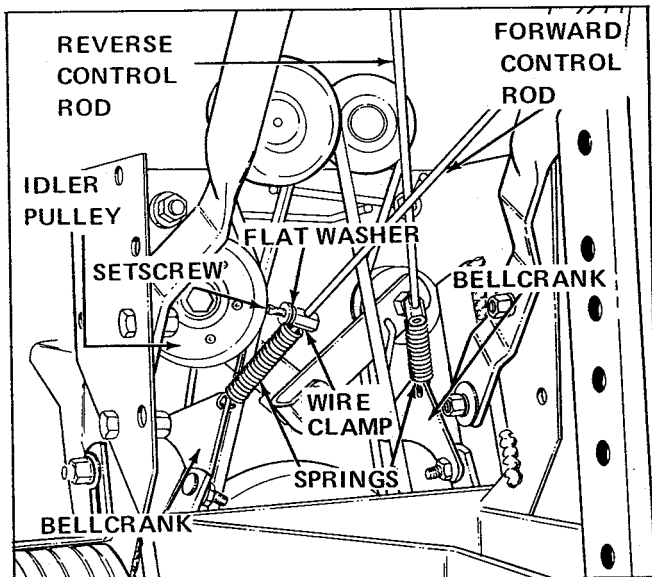

Figure 5.
a. See Figure 5. Attach reverse and forward control rod springs to bellcranks.
b. See Figure 5. Slide reverse and forward control rods through wire clamps inside springs. Loosely secure rods in clamps with setscrews and flat washers. Hook loose end of springs on setscrews between flat washers and clamps.
c. See Figure 5. Adjust spring tension by loosening clamp setscrews and moving clamps on control rods. Idler pulleys should be 1/4-inch from frame when clutch disengaged (handle released). Belt stops should be 1/8-inch from belts when clutch engaged (handle compressed). See Adjustments section of this manual for clutch adjustment procedure.
3. See Figure 5. If clutch does not operate as described above in steps 1 and 2, loosen wire clamp setscrew and adjust wire clamp on forward or reverse control rod to obtain required spring tension.